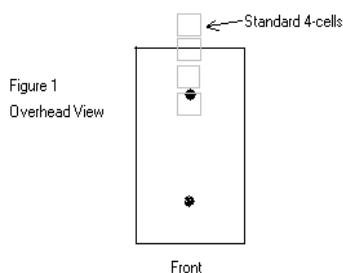

Figure-6 **Changing Cuvette Holders**
- Step 2 **Locate the Front Screw of the Holder Base.** Open the cover of the Sample Compartment, remove any cuvettes or any breakable items, push in the **Cuvette Holder Rod** (black knob) all the way back (the first position is into the light beam), and locate the **Front Screw** of the **4-position Cuvette Holder** shown in Figure-6.